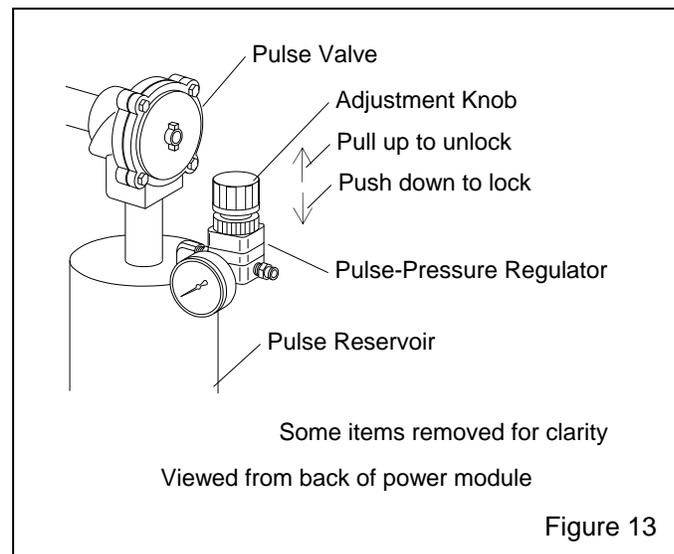

Figure 13
5.6.1 Adjust pulse pressure using the regulator mounted on the pulse reservoir, as shown in Figure 13. Begin pulse at 60 psi. To adjust pressure, pull the knob to unlock it, as shown in Figure 13, turn clockwise to increase pressure or counterclockwise to decrease pressure. Once operating pressure is set, push the knob to lock it and maintain the setting.